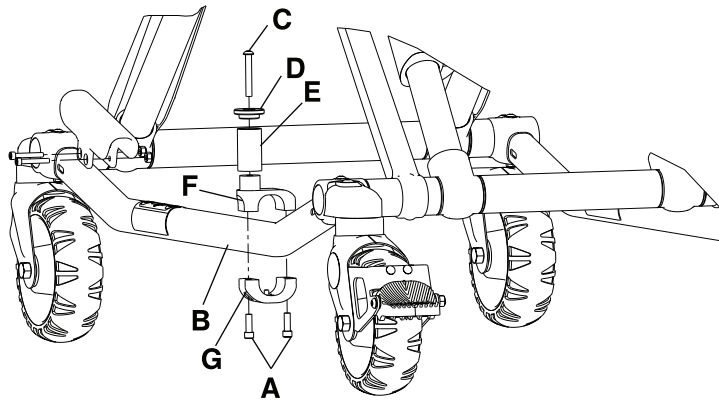

Figure 17: Cot retaining post replacement
3. Using a T30 Torx driver, remove the two socket head cap screws (A) that secure the current cot retaining post to the base tube (B) (Figure 17 on page 50). Discard the screws and cot retaining post.
4. Insert the button head cap screw (C) through the retaining post cap (D) and post tube (E), and then into the top pin bracket (F) (Figure 17 on page 50).
5. Using a 5/32" hex wrench, tighten the button head cap screw (C) completely to secure the retaining post cap (D) and post tube (E) to the top pin bracket (F) (Figure 17 on page 50). Using a torque wrench, torque the screw to 100-140 in-lb.
6. Assemble the cot retaining post across the base tube. Align the holes of the brackets and insert two socket head cap screws (A) into the threaded holes of the bottom pin bracket (G) (Figure 17 on page 50).